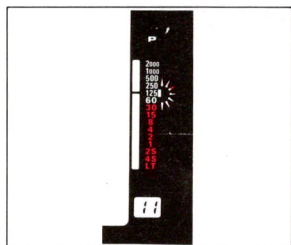

Fig. 45
7. When fully charged, the Flash Ready Indicator (red LED) lights in the finder. (Fig. 45)